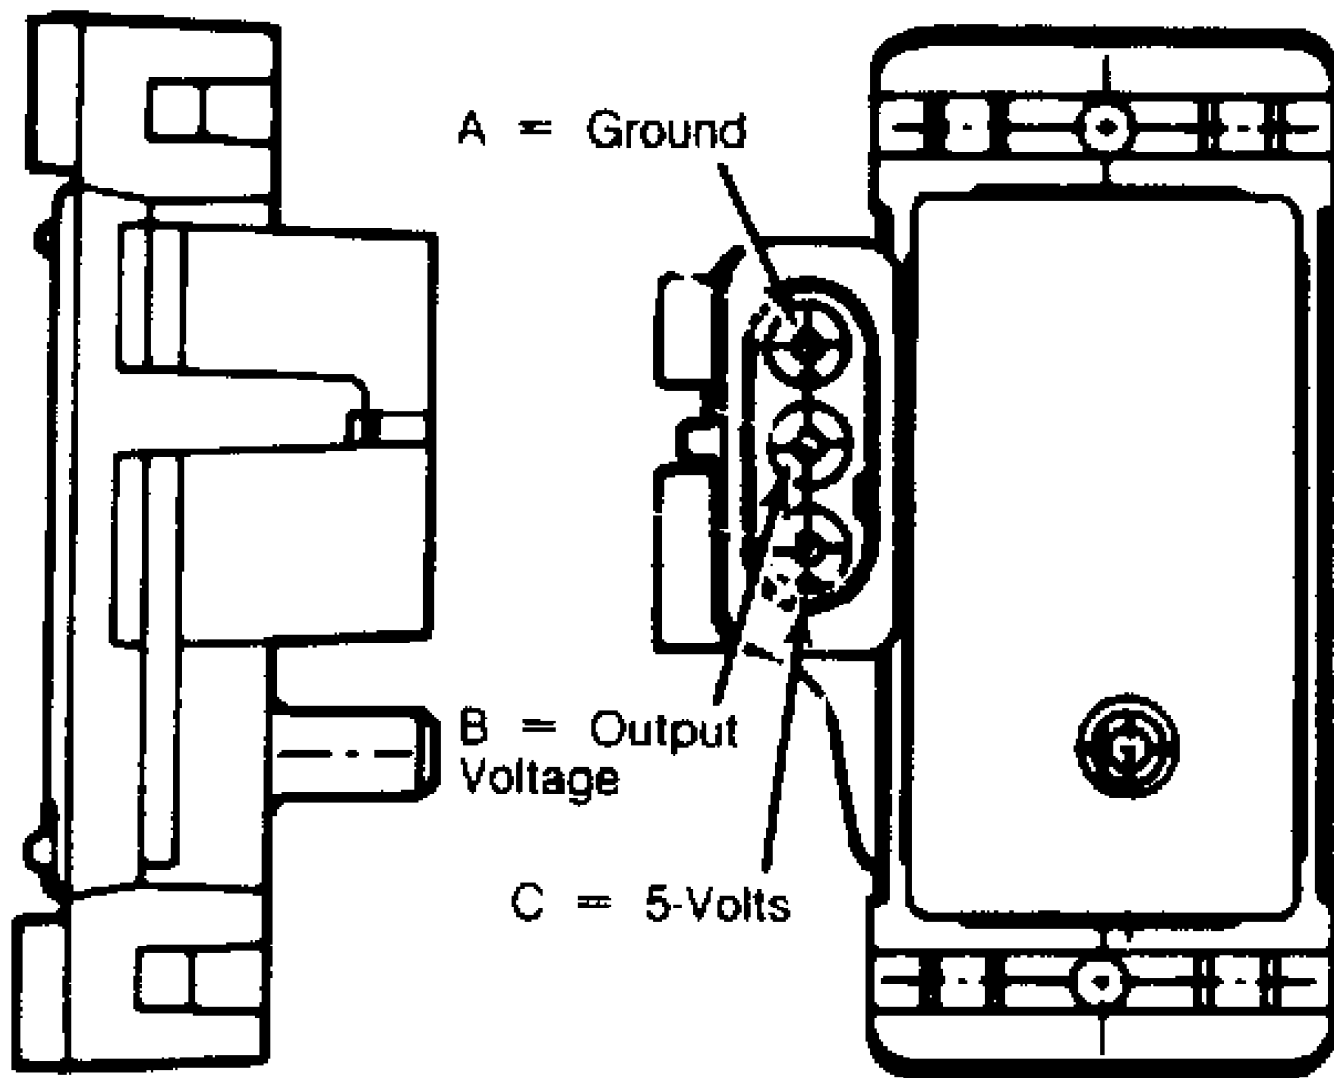

Fig. 5: MAP Sensor Test Points
1) Inspect MAP sensor hoses and connections. Repair as necessary. With ignition on and engine off, test MAP sensor output voltage at connector terminal "B". (Marked on sensor body). See Fig. 5. Output voltage should be 4 to 5 volts.